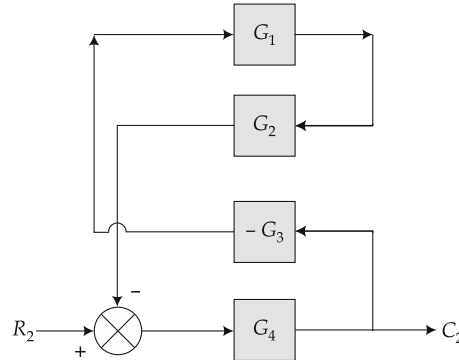
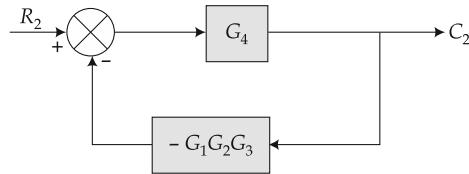
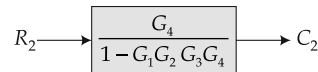

Fig. 2.48
Fig. 2.49
Fig. 2.50
Step 11: To find C_2/R_2 , put $C_1 = R_1 = 0$, Fig. 2.38 reduces to Fig. 2.48.
Step 12: G_1, G_2 and G_3 are in cascade, Fig. 2.48 reduces to Fig. 2.49.
Step 13: Eliminating feedback loop, Fig. 2.49 reduces to Fig. 2.50.